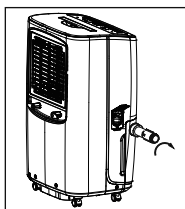

fig. 5
- b. Screw the drainage adapter onto the threaded portion of the drainage connector of the unit securely. (fig.5&6)